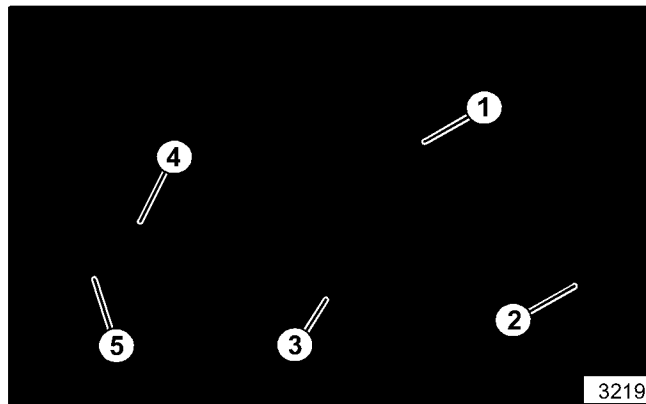

Figure 35. Output Shaft
14. Install key and large single gear (see figure 35) onto shaft (be sure the deep-step side of gear is toward snap ring).